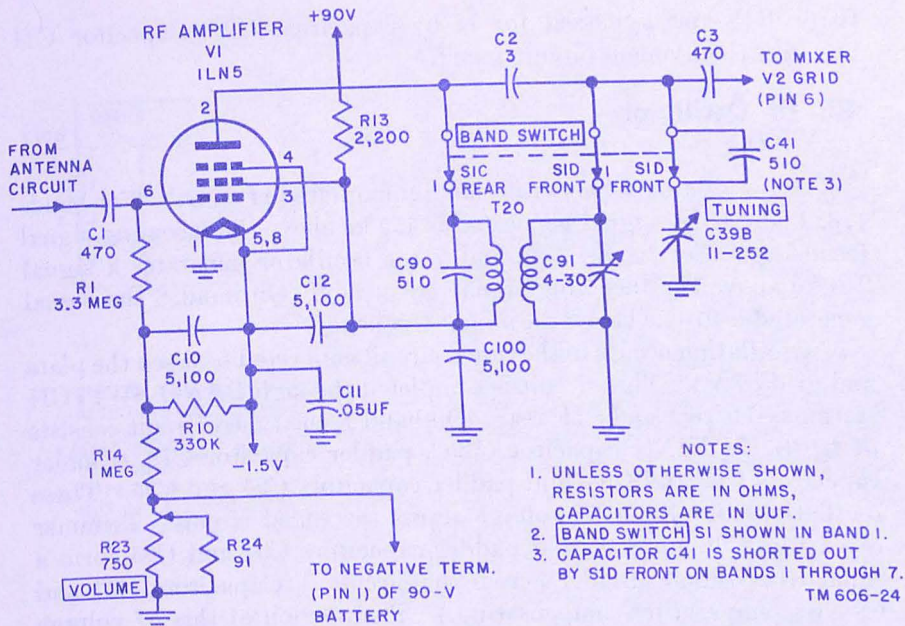

Figure 10. Rf amplifier.
(fig. 10)
b. VOLUME control R23 is connected between the negative terminal (pin 1) of the 90-volt battery and ground. The total plate and screen current of all tubes in the radio set flows through R23 and develops a negative voltage with respect to ground at the junction of R24 and R14 (fig. 10). For example, if the total plate and screen current drawn from the 90-volt supply is 20 milliamperes (ma) and if R23 is set for maximum resistance (750 ohms), the voltage at the junction of R23 and R14 would be -15 volts ($750 \times .02$). Resistors R14 and R10 form a voltage divider between this negative voltage and the -1.5 -volt supply so that the potential at the junction of R14 and R10 is more negative than -1.5 volts and is controlled by adjustment of R23. Resistor R24 is in series with the movable arm of R23 to prevent R23 from being completely shorted out. This assures a minimum negative voltage at the junction of R23 and R14. A counterclockwise rotation of the VOLUME control knob increases the resistance of R23 and so increases the negative voltage at the junction of R23 and R14. Because this increases the negative bias at the grids of V1 and V4 (par. 45*a*), their gain is lowered and the volume of the set is reduced. Similarly, turning the VOLUME control clockwise reduces the resistance of R23 and increases the volume of the set. Capacitor C10 bypasses the rf voltage to the filament thus keeping it out of the bias circuits.